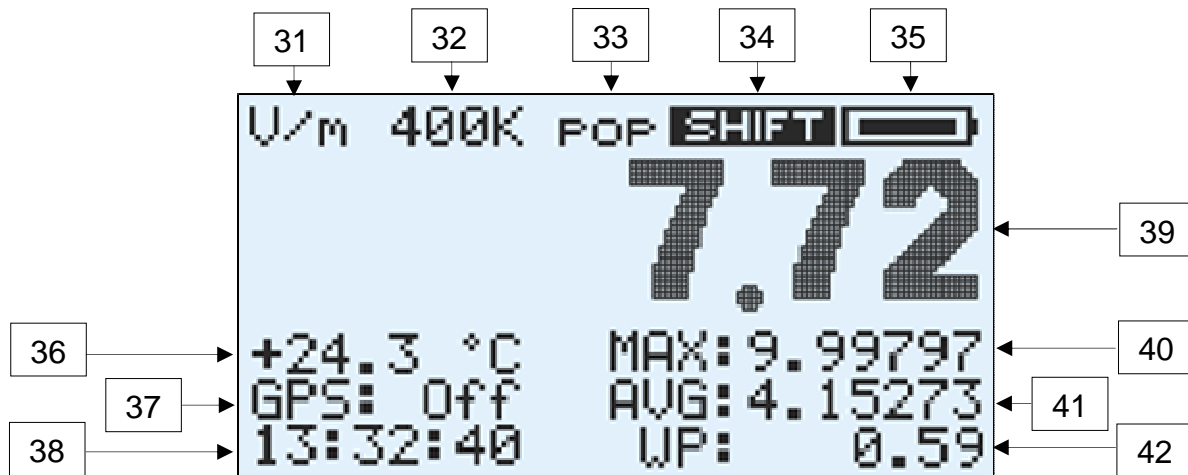

Fig. 6.6 – Main measurement screen
During normal operation, the battery charge status is always displayed at the top right of the screen (figure 6.6, item 35), represented by the symbol of a battery that is filled proportionally to the available charge.
After the power on operation and probe detection and calibration is completed, the main measure screen appears together with all the other report elements which are also highlighted as shown in figure 6.6.